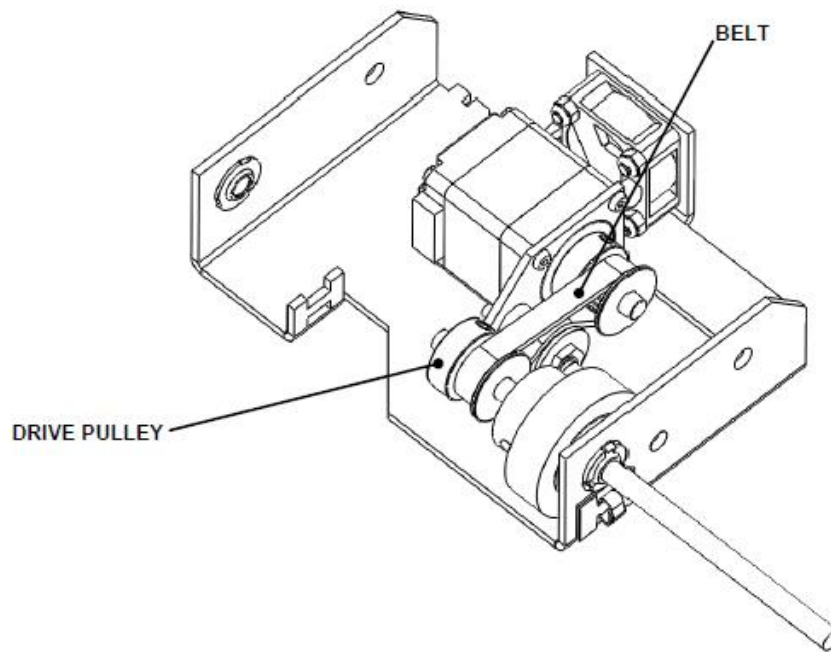

Figure J-10: Belt and Drive Pulley
2. Loosen the drive pulley and remove the belt (Figure J-10).